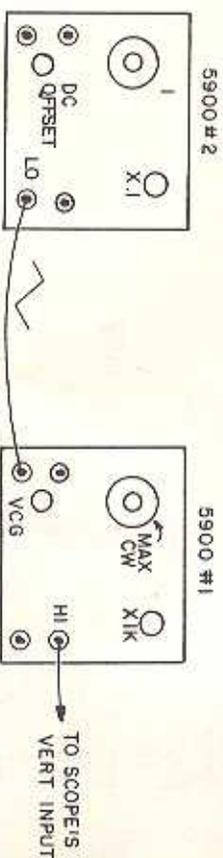

Fig. 14 To display FM modulation
- Connect the two generators and the scope as shown in Fig. 14. Adjust 5900 (# 1) as follows: